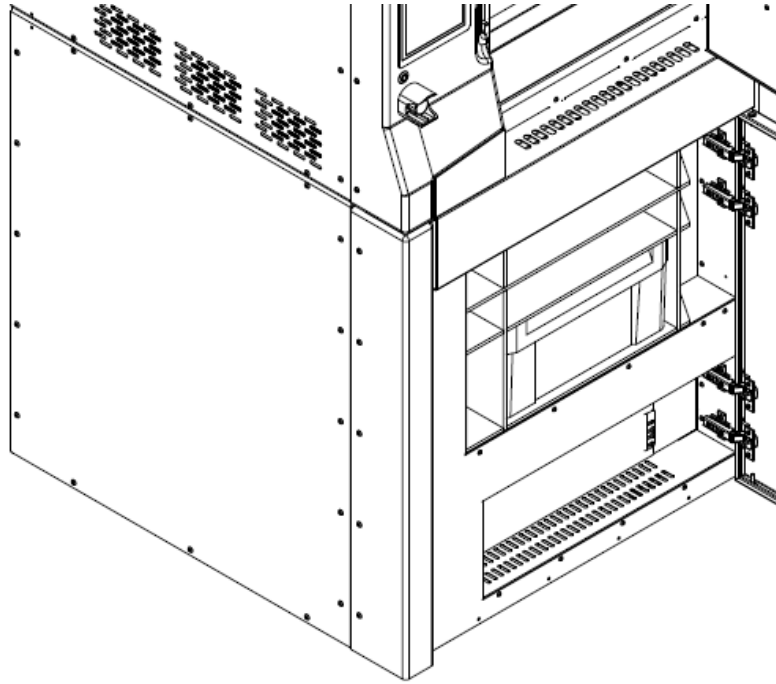

Fig. 128b Lower left printer cover (INDUSTRY F420)
3. For INDUSTRY F420: Remove the bottom cover on the left side of the printer by unscrewing the screws holding it in place (Figure 128b).